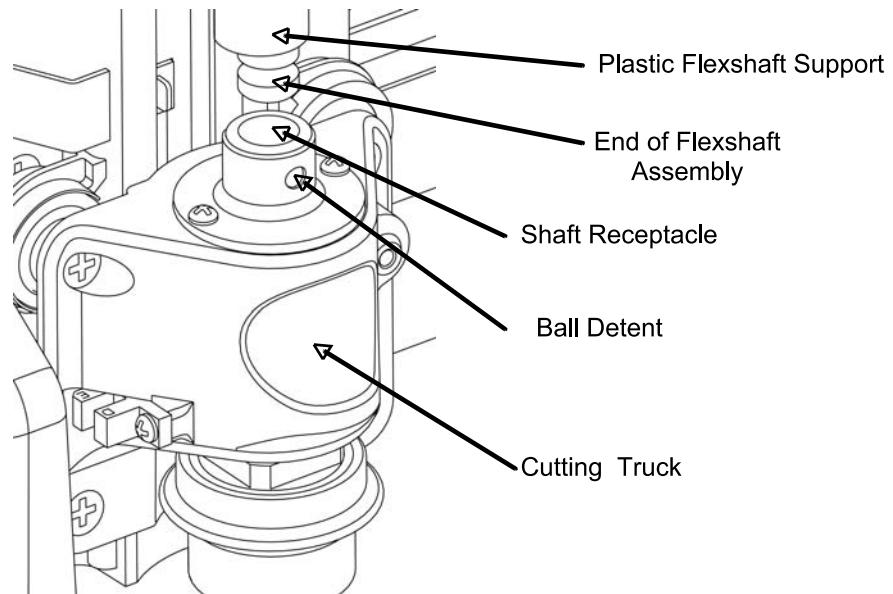

FIGURE 2: REMOVING THE FLEXSHAFT
9. **Remove the flexshaft from the cutting head (Figure 2) :** Move the cutting truck to the center of its horizontal travel and to the top of its vertical travel. Locate the plastic flexshaft support that mates to the top of the cutting head. Grab this support with one hand and the